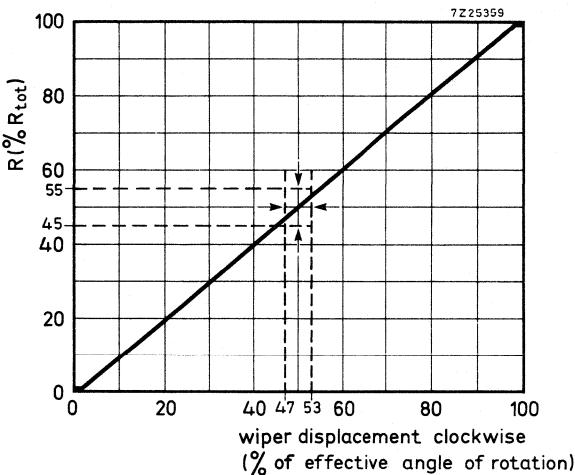

Fig. 4 Linear law.
- Resistance law and tolerances linear, see Fig. 4